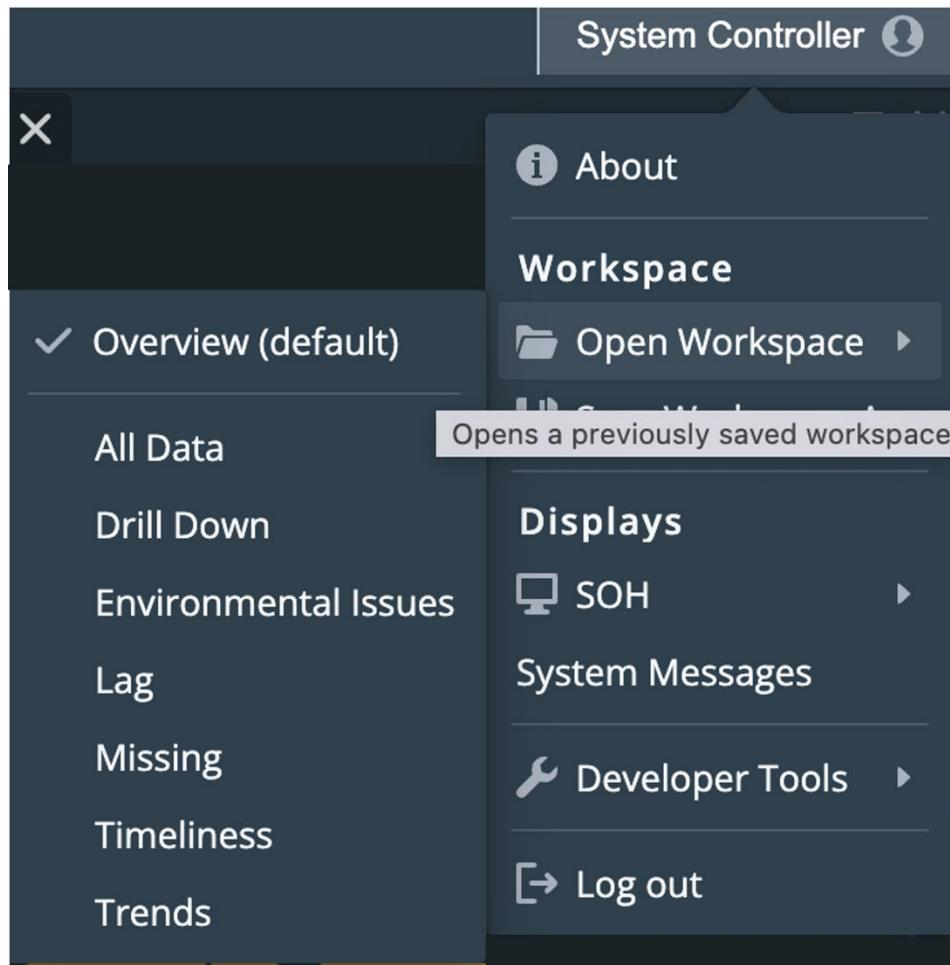

Figure 5. Open Workspace Menu Options.
- 2) Open Workspace – Shows the user's available workspace layouts (Figure 5).